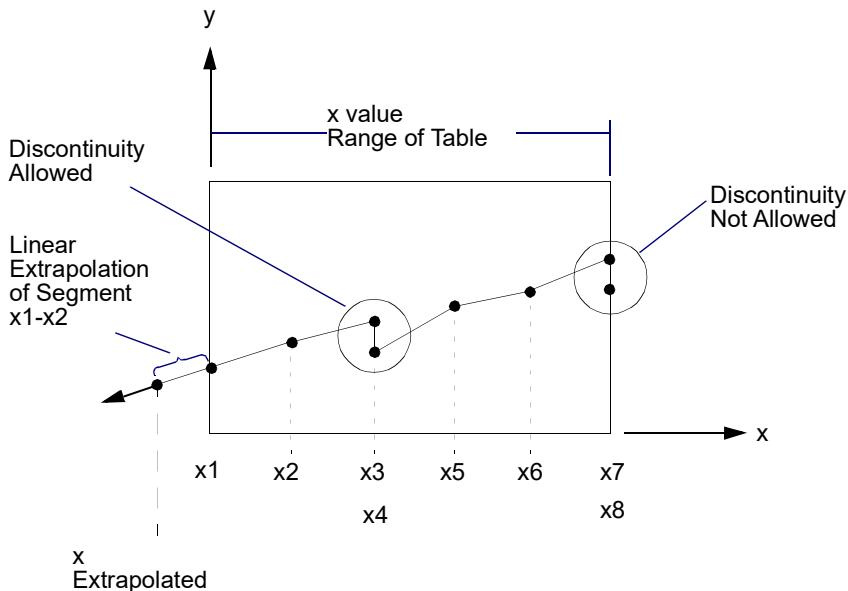

Figure 9-163 Example of Table Extrapolation and Discontinuity
2. Discontinuities may be specified between any two points except the two starting points or two end points. For example, in Figure 9-163 discontinuities are allowed only between points x2 through x7. Also, if y is evaluated at a discontinuity, then the average value of y is used. In Figure 9-163, the value of y at x = x3 is $y = (y_3 + y_4)/2$.
where x is input to the table and y is returned. The table look-up is performed using linear interpolation within the table and linear extrapolation outside the table using the two starting or end points. See Figure 9-163. No warning messages are issued if table data is input incorrectly.